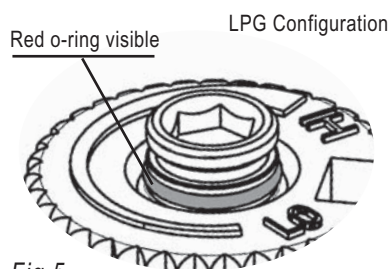

Fig.5
- 15) Verify that if the conversion is from NG to LPG, the screw must be reassembled with the red o-ring visible (Fig. 5).